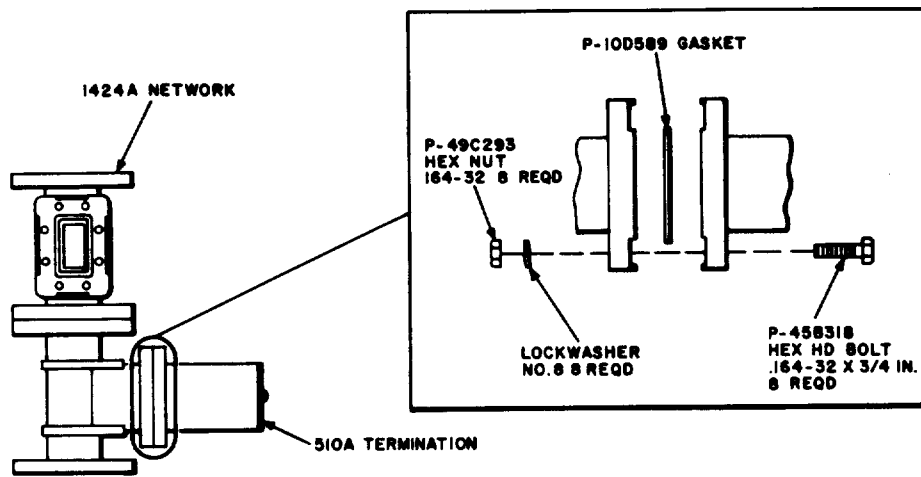

Fig. 20—Installation of 510A Termination
**3.04** When only one polarization of 11 GHz is equipped, the unused port of the 1424A network must be terminated by a 510A termination. Install the 510A termination as shown in Fig. 20.